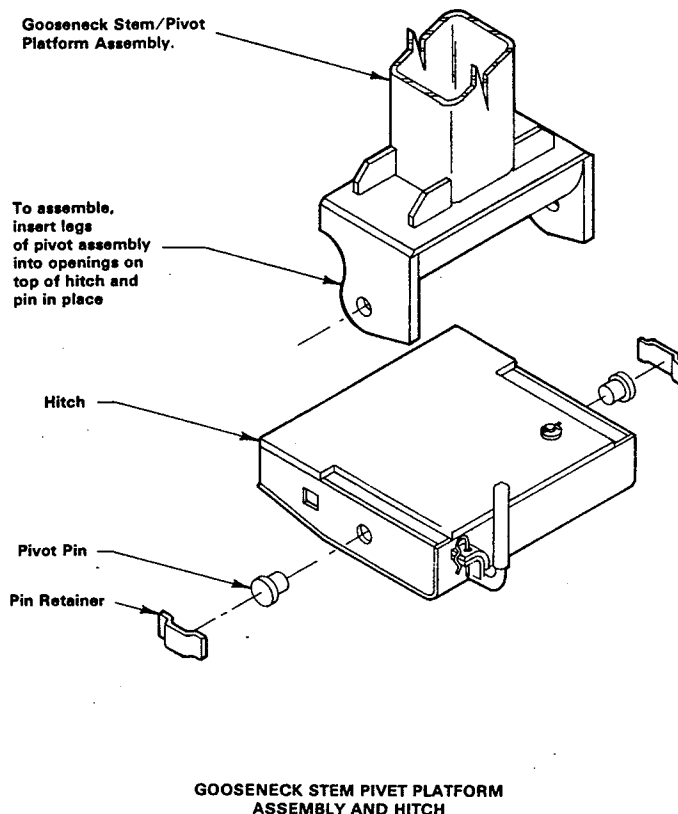

Figure 8
5. Place the legs of the pivot assembly into the top of the hitch. (See Figure 8)